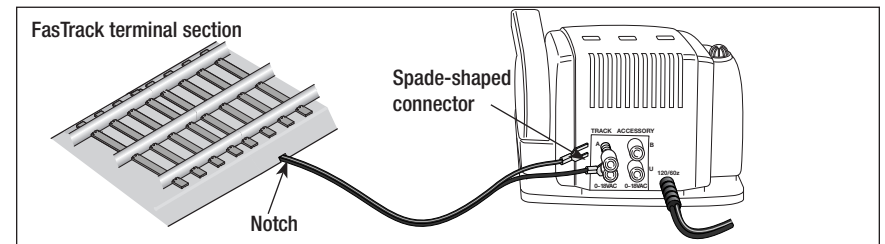

Figure 4. Controller connections
1. **Feed the wires through the notch in the FasTrack terminal section.** Refer to Figure 4 on page 7.